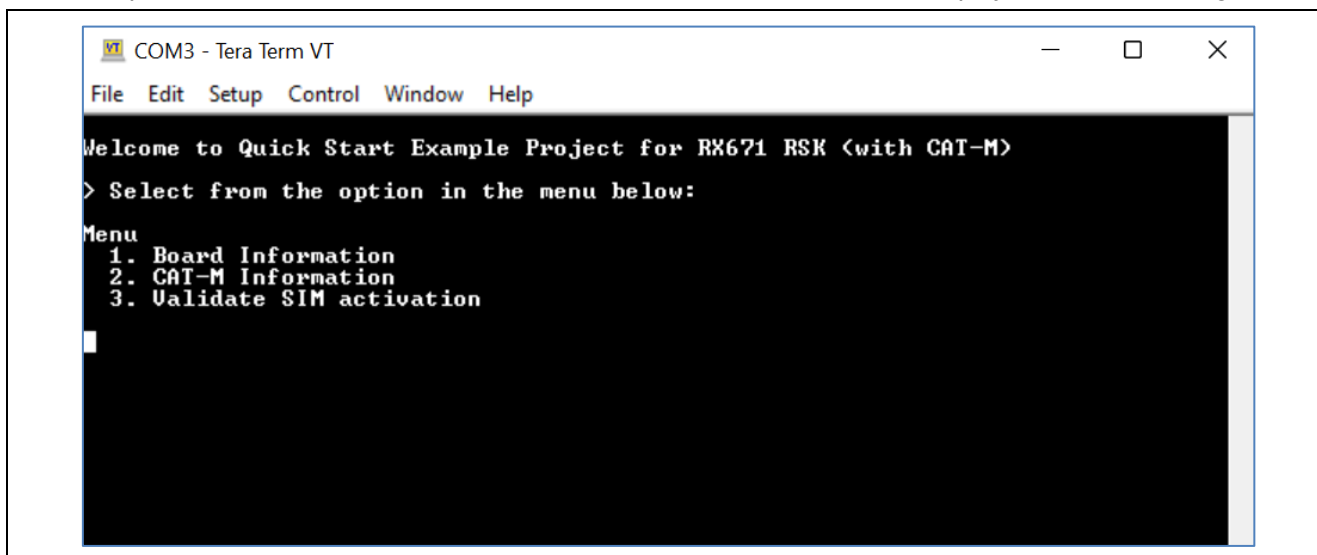

Figure 9. Welcome and Main Menu
4. Complete the connection. The 'Welcome and Main Menu' screen will be displayed as shown in Figure 9.